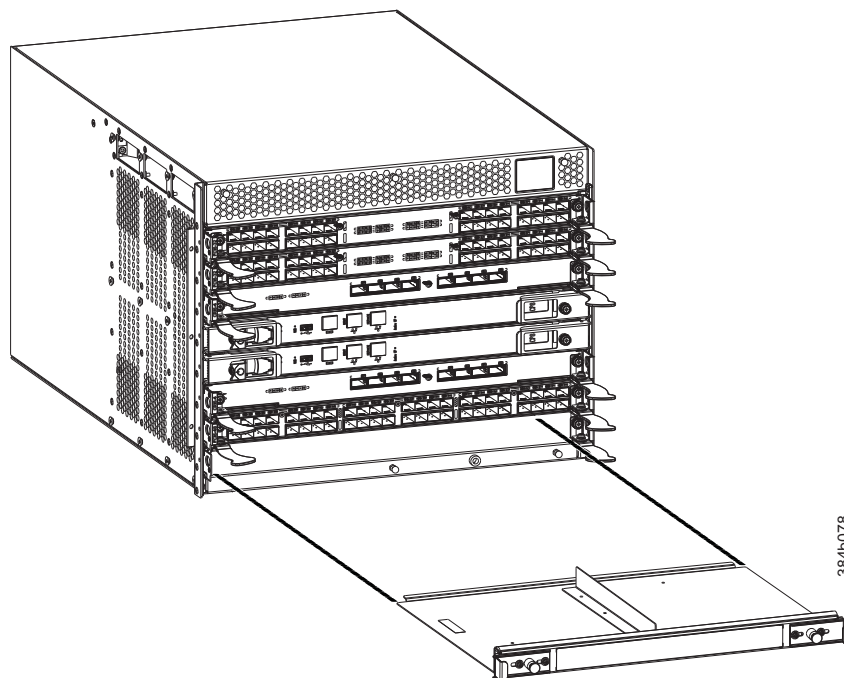

Figure 37. Filler panel removal and installation
3. Using the handles, pull the filler panel out of the chassis (Figure 37 on page 79).
1. Orient the filler panel in front of the empty slot (see Figure 37).